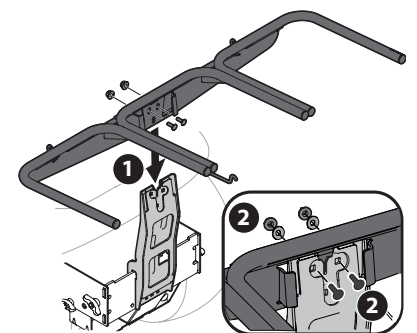

Figure 6
1. Install and secure the hanger assembly (683-04498B) to the vertical support using two carriage bolts (710-0276), two cup washers (736-0242) and two lock nuts (712-04063) from hardware pack 689-02364. Do not overtighten. See Figure 6.